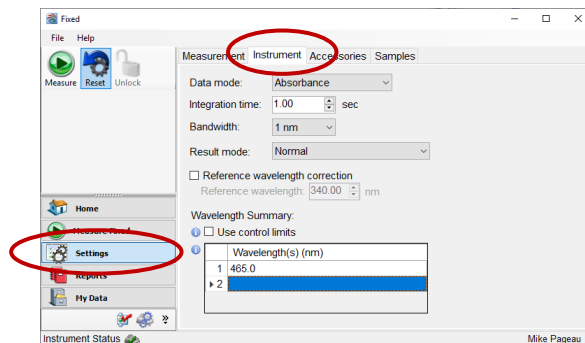

FIGURE 4
- 8.2.8 Enter the wavelength value of 465.0 nm. Ensure the other settings match Figure 4 below.